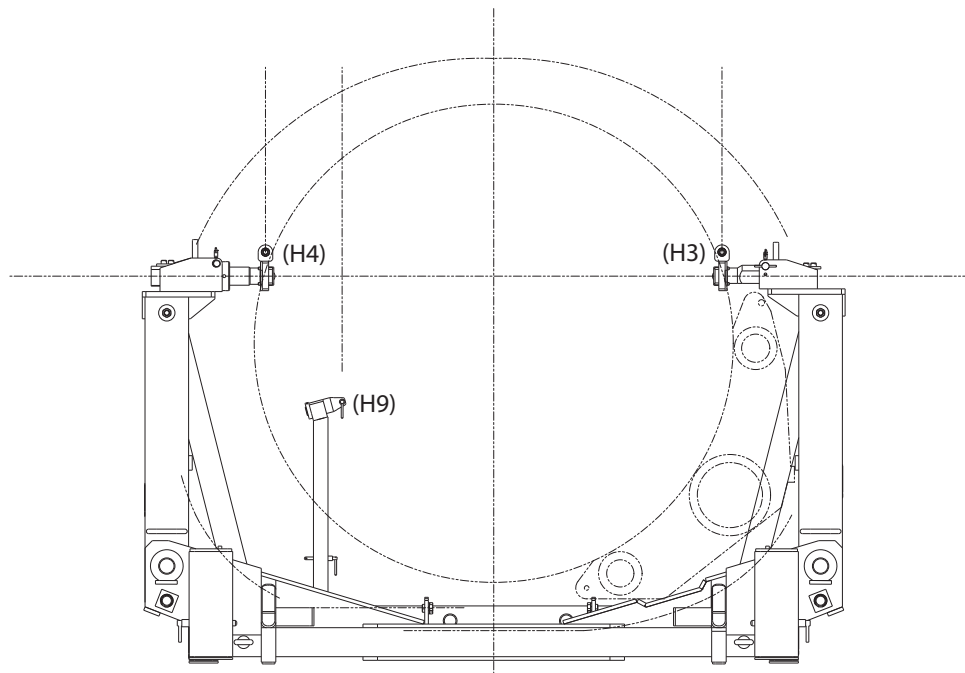

Figure 5.3-4
- 24) The engine maybe fully lowered and supported by the engine stand and the bootstrap hoist connections removed, as shown in Figure 5.3-4.
- 25) Install the forward support arms axial braces (item 4802) to the cradle base with retaining pins supplied. Tighten the brace attachment lug, located near the top on the forward face of the support tube to reduce slack.